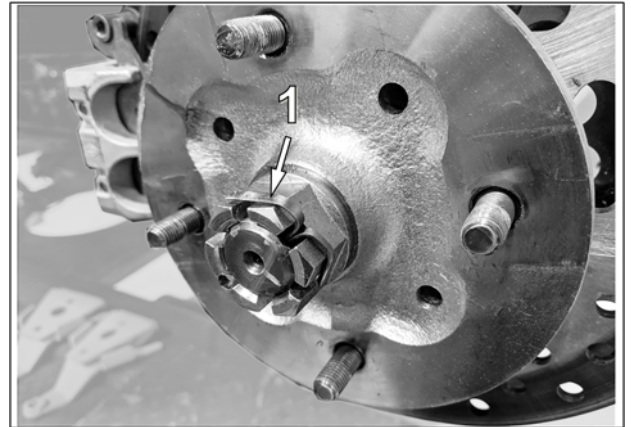

Fig. 18
CAUTION: Make sure that the wheel hub's castle nut cotter pin (1) does not interfere with the track system hub. See Fig. 18